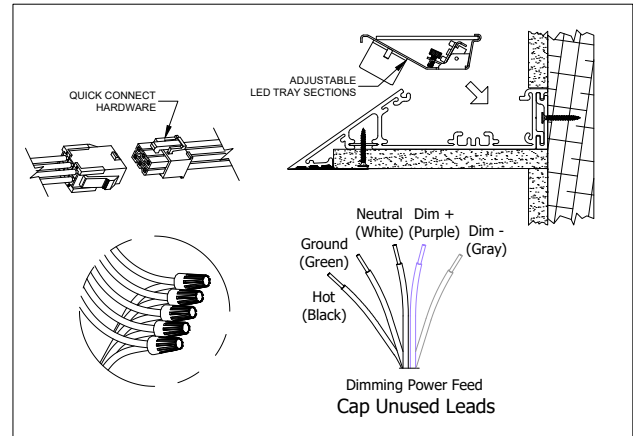

Figure 4. LED trays installation and electrical connections.
5. install the LED tray sections with lenses into the housing extrusion. Utilize provided quick connect hardware to make the electrical connections, see figure 4 for more details.